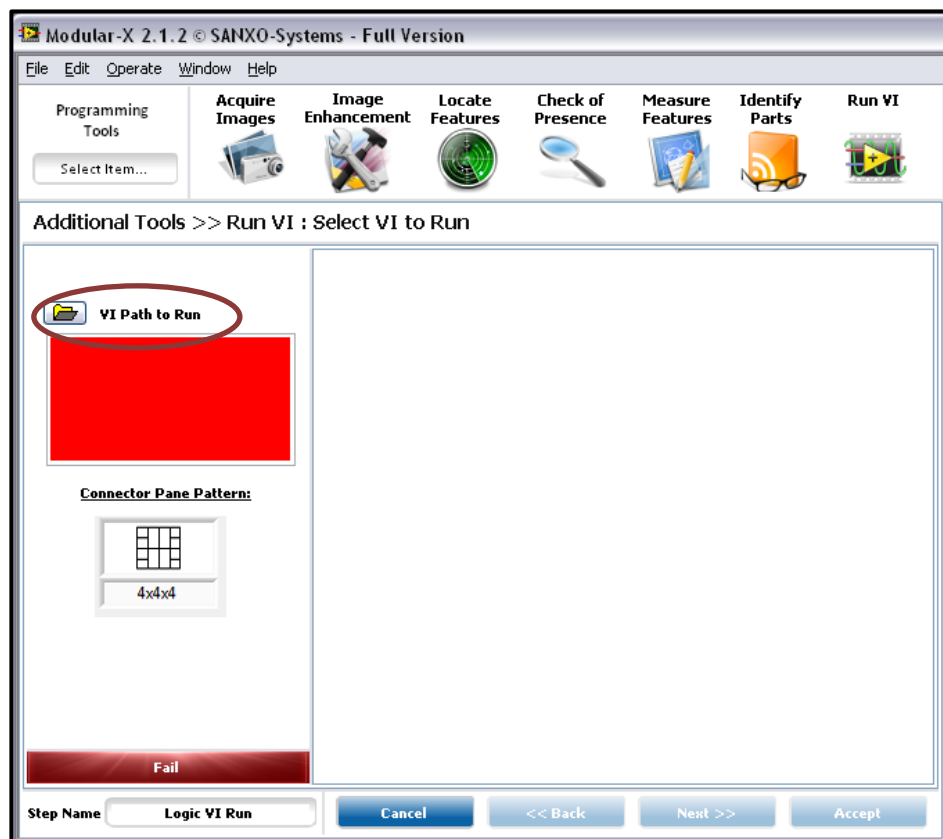

Figure 106. Browse VI Path.
- Click VI Path to Run [Figure 106], select the desired VI and click Next.